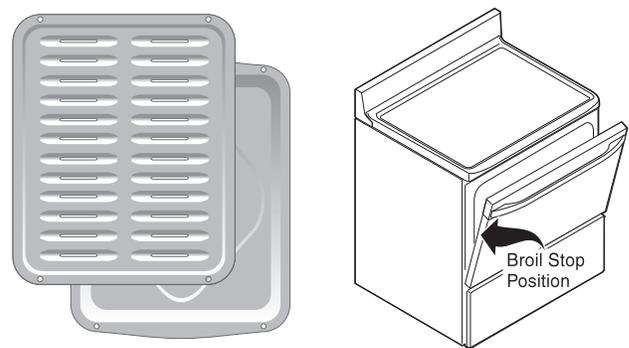

Figure 16: Broil pan and insert (L) Door in position when broiling (R).
6. Place the broiler pan and insert on the oven rack. Broil with the oven door open to broil stop position (Figure 16).